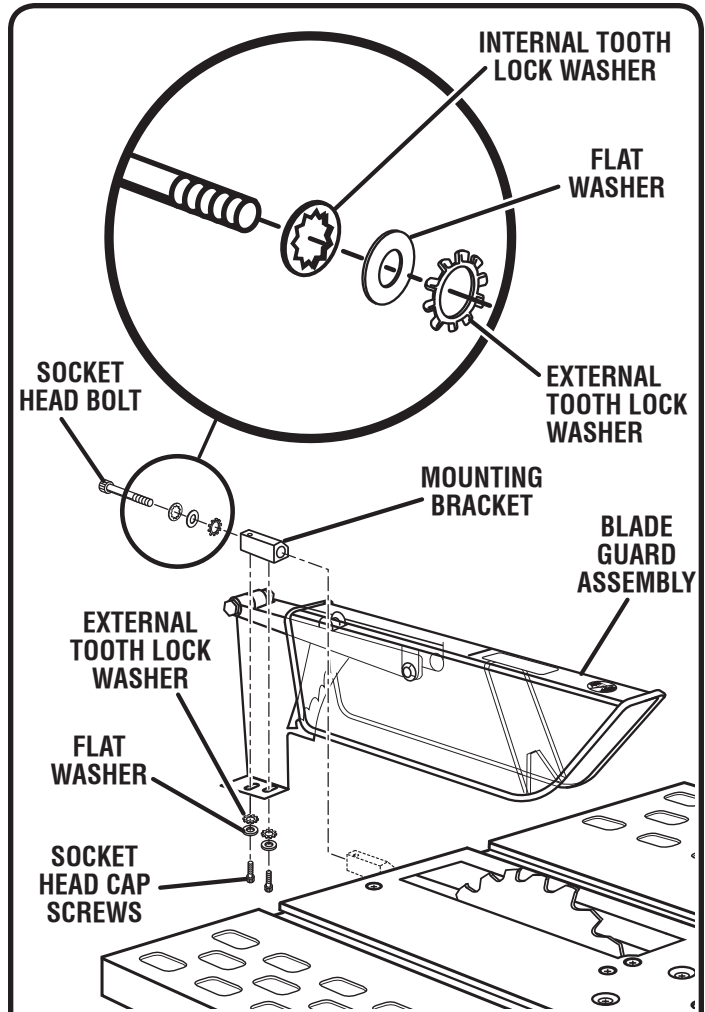

Fig. 13
See Figure 13.
- Attach the blade guard assembly to the mounting bracket using the socket head cap screws, flat washers, and external tooth lock washers as shown in figure 13.